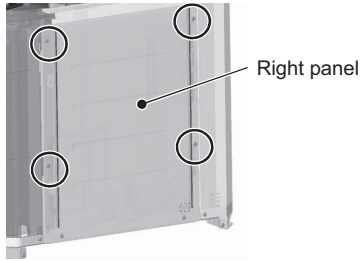
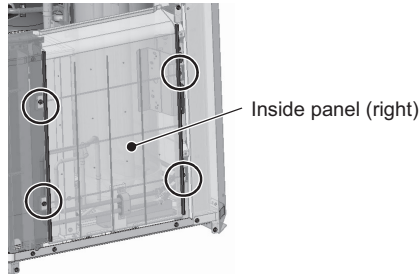
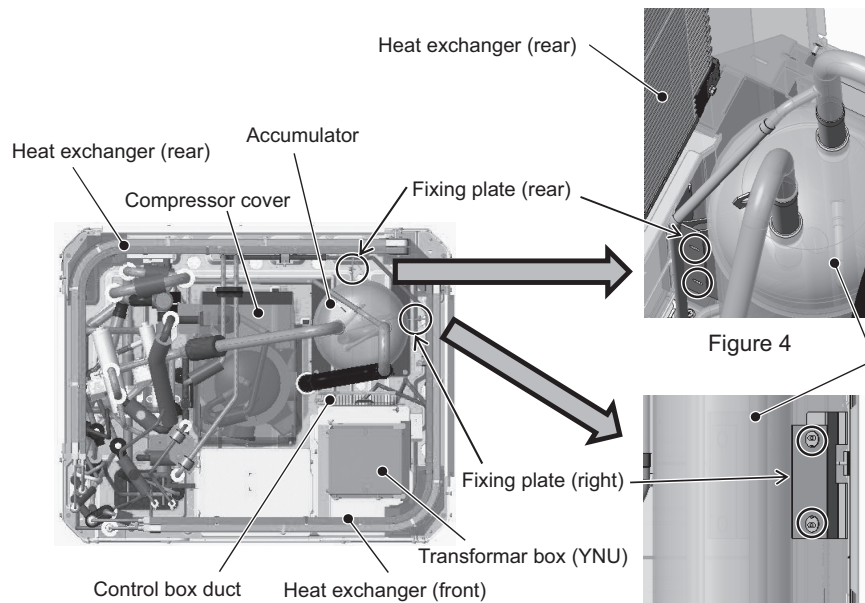
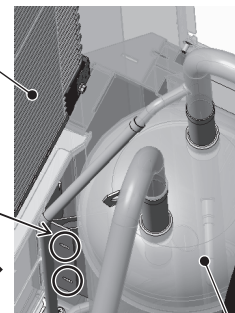

Figure 1
Figure 2
Figure 3
Figure 4
- (1) Remove the front heat exchanger. Refer to 8-13-9 Maintenance Procedures for the Heat Exchanger for details.
- (2) Remove the top, front, and right compressor covers. Refer to 8-13-5 Compressor Replacement Procedure for details.
- (3) Remove the duct from the control box. Refer to the control box replacement procedure for details.
- (4) Remove the right and inside (right) panels by unscrewing the eight screws. (See Figures 1 and 2.)
- (5) Unscrew the two screws from the right accumulator fixing plate. (See Figures 3 and 5.)
- (6) Unscrew the two screws from the rear accumulator fixing plate. (See Figures 3 and 4.)
<p>&lt;KB type, J type, and 4-, 6-, 8-branch types&gt;</p> <ol style="list-style-type: none"><li>1) Remove the control box by unscrewing the four fixing screws. (Figure 1)</li><li>2) Unscrew the four service panel fixing screws. (Figure 2)</li><li>3) Remove the top panel by unscrewing the nine fixing screws. (Figure 2)</li></ol> <p>&lt;For J-type, 12- and 16-branch types, JA-type, and KA-type&gt;</p> <ol style="list-style-type: none"><li>1) Remove the service panel (1) by unscrewing the two fixing screws. (Figure 3)</li><li>2) Remove the control box by unscrewing the four fixing screws. (Figure 3)</li><li>3) Remove the top panel by unscrewing the 10 fixing screws. (Figure 4)</li><li>4) Remove the service panel (2) by unscrewing the two fixing screws. (Figure 4)</li></ol>	 <p>(Figure 1)</p>  <p>(Figure 2)</p>  <p>(Figure 3)</p>  <p>(Figure 4)</p>
<ol style="list-style-type: none"> <li>1) Remove the fixing screw on the long side of the bottom panel. (Four places encircled by circles in Figure 1)</li> <li>2) To prevent the bottom panel from falling, of the four screws indicated with triangles in Figure 1, only loosen (but not remove) the two screws that are diagonally located or on the opposite ends of the long side of the panel (either (1) and (3), (2) and (4), (1) and (4), or (2) and (3)). Remove the two remaining screws.</li> <li>3) As shown in the enlarged view of Figure 1, the fastening screw hole on the short side looks like two circles in different shape joined together (double-snowman shape). Slide the bottom panel in the direction of the arrow, and remove it in the downward direction. (Figure 2)</li> <li>4) When removing the drain pan, hold the protruded area of the panel or the socket and pull it straight down, using caution not to let it come into contact with the sheet metal. (Figure 3) If the drain pan comes into contact with the sheet metal, the drain pan may be scraped, leading to water leakage.</li> </ol> <p>Installing the bottom panel</p> <ol style="list-style-type: none"> <li>1) Of the four screws indicated with triangles in Figure 1, partially tighten the two screws that are diagonally located (either (1) and (3), or (2) and (4)).</li> <li>2) Thread the screw into the double-snowman shaped hole, move the panel in the opposite direction as when it was removed in step 3) above, set the screw into the smaller circle, and tighten the screw to hold the panel in place.</li> <li>3) Tighten the remaining screws.</li> </ol> <p>Note</p> <p>Do not stay directly underneath the unit when working with the bottom plate. Remove the drain piping to remove the drain pan. Check that no water has accumulated in the drain pan.</p>	<p>(Figure 1) Bottom panel</p> <p>(Enlarged view of Figure 1)</p> <p>(Figure 2)</p> <p>(Figure 3) Protrusion Socket Drain pan</p>